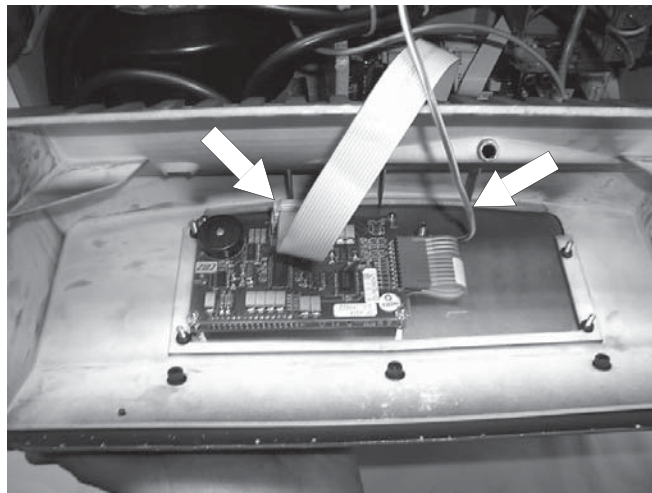

Fig. 138
- 3) detach the flat cable and ground wire from the keyboard (fig. 138).